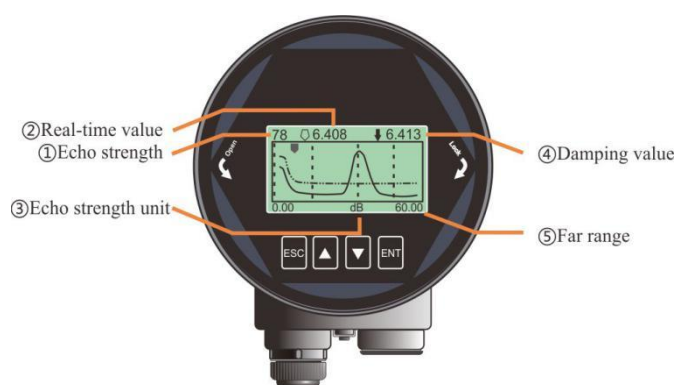

Fig 6-2 Echo Interface overview
- ① indicates the maximum echo intensity in the measurement range. For a metal plate at 10m, the echo intensity should be at least 80dB.
- ③ indicates the echo intensity which is selected by the algorithm. The strength should be at least 30dB for stable operation.
- Time Varying Threshold (TVT) and the real-time echo curve are represented in dash line and solid line respectively in Fig6-2. Details for TVT refer to section 6.5.4.10-12.
- ②Hollow arrow means the real time position and the solid arrow means the damping position. So the hollow one changes faster than the solid one.